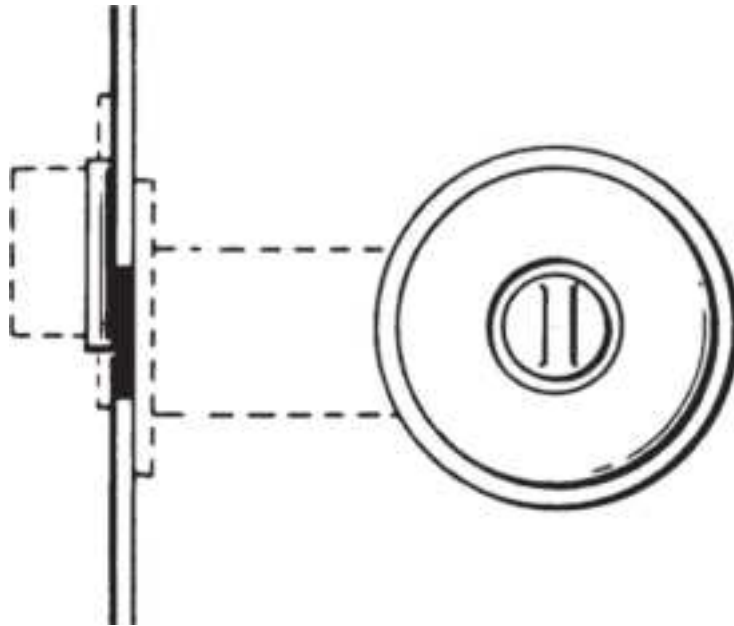

**Figure 13.3** Has the door warped?
- Has the door warped (Fig. 13.3)?